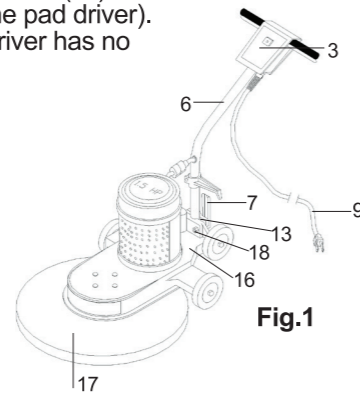
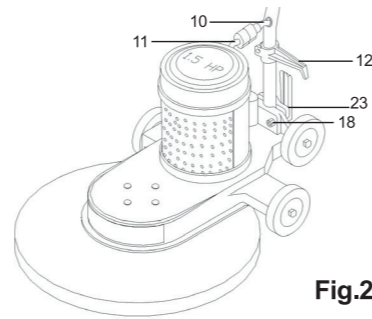

Fig.1
Fig.2
1. Before assembling the handle tube (6) on chassis (16), lower lever handle (7) and place tube between chassis and clamp (13).
2. The handle tube (6) has to face backwards as in Fig.1
3. Make sure the guide on the handle tube (6) coincides with the guide on the chassis (16).
4. Raise the lever handle (7) until it is in vertical position, as shown in Fig.2. By doing this there should be no play on the handle tube.